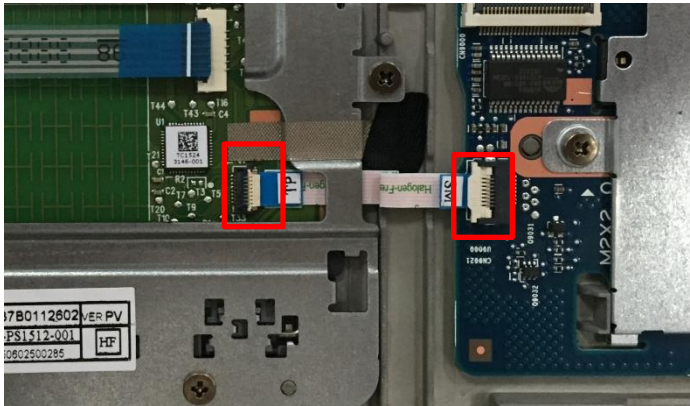

Fig.1
1. Disassemble touch pad FFC.(Fig.1)